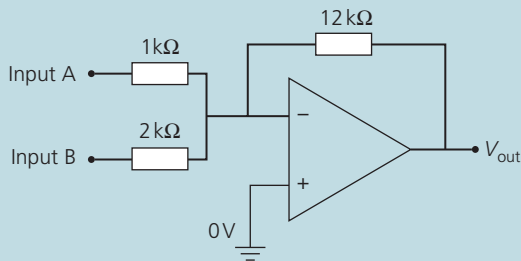

Figure 12
9. Figure 12 shows an op-amp connected as a summing amplifier.